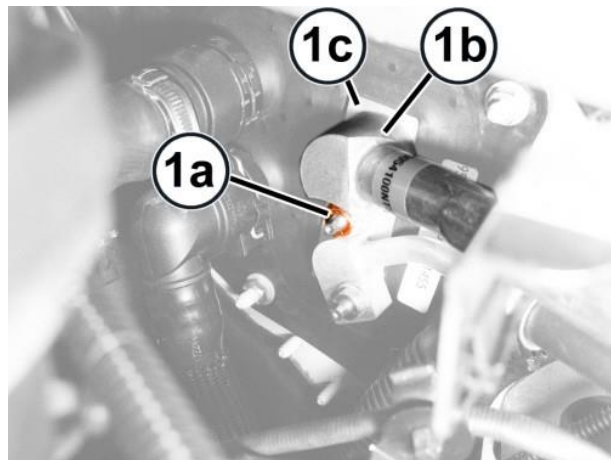

Figure 52 – Refrigerant Pipe
38. Remove the nut (1a) and disconnect the connector (1b) for the pipe from the expansion valve (1c) (Figure 52).